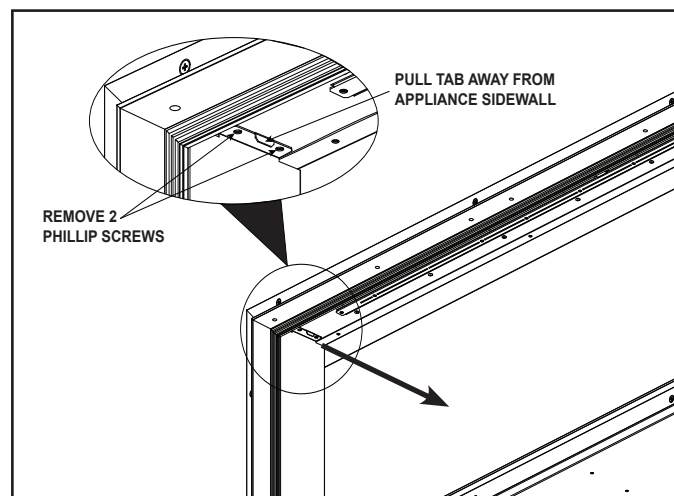

Figure 4.6 Side Panel Removal
Remove the left and right interior side panels by removing the two (2) screws attaching them to the appliance ceiling. Use the small tab located on the top of each panel to pull the top downward and away from the appliance sidewall. The panel's bottom tab will lift out of the appliance. Repeat for both sides. See Figure 4.6.